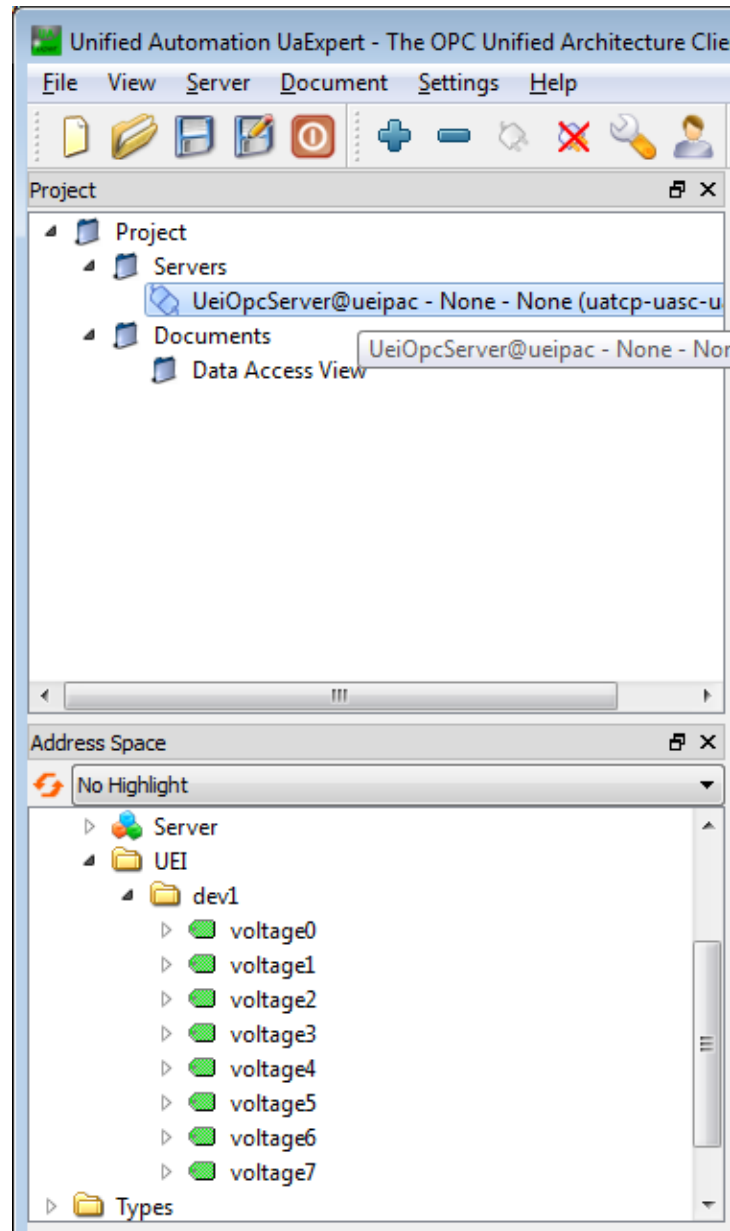

Figure 13 Channels Display in Client Address Space
6. Verify that the UEI OPC-UA channels are visible in the “Address Space” under the UEI folder (refer to Figure 13).